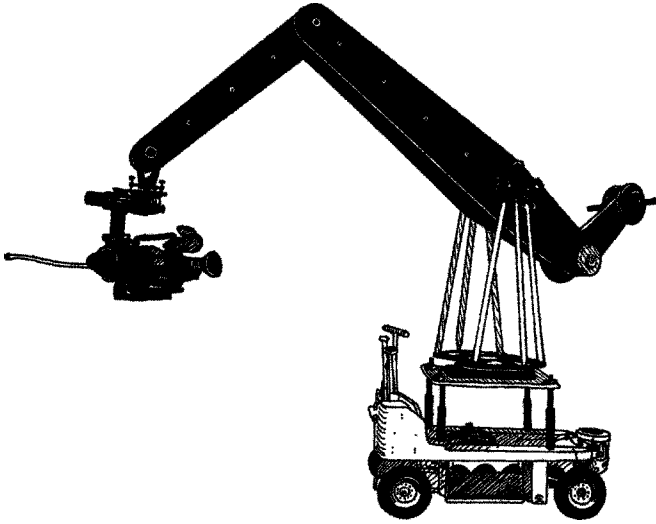

Figure 10.19 Z-Jib Arm, Model 11-100 (Ken Hill Mfg.).
- **ZG Arm (Model 11-100, Ken Hill MFG)** (Figure 10.19)